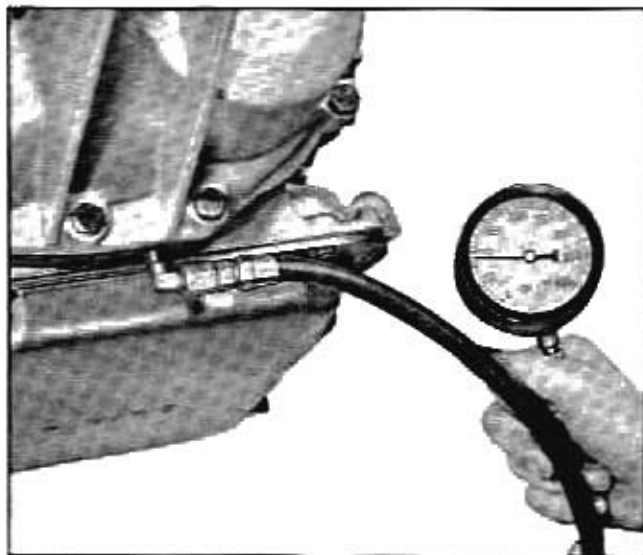

Fig. 180 Gauge Attached for Oil Pressure Test
1. Connect Oil Pressure Gauge J-5907 to take-off hole at bottom of reverse clutch housing (Fig. 180).